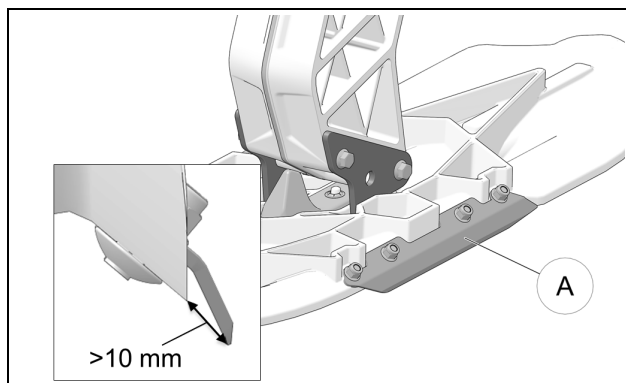

Figure 38
Verify the Side runners (A) mounted on the ski. If they show flat spots bigger than 1 mm along the edge, they should be re-sharpened. If the measurement between the edge of the ski and the edge of the runner is under 10 mm (13-14 mm when new), the part should be replaced. See Figure 38.